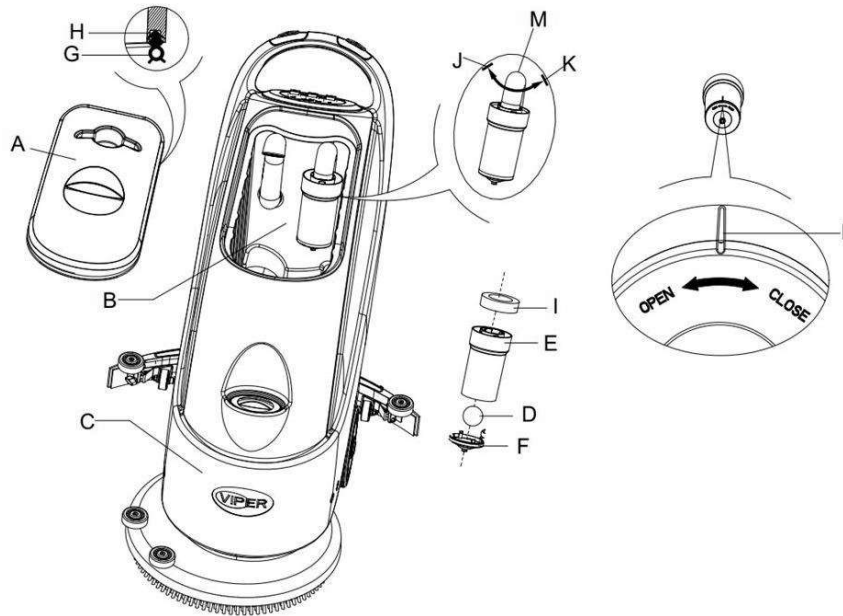

Figure 11
2. Press the power switch (38) to the position “O” to turn off the machine.
3. Open recovery tank lid (A, Figure 11), and remove the float device (36) from inside the tank.
4. Use clean water to rinse the recovery tank lid (A), the tank (B and C), and the float filter support frame (E). Drain all the water from the water tank.
5. If necessary, following the symbols “Open” and “Close” as shown in Figure 11, open the bottom lid (F) of the float filter and clean the float (D), float filter support frame (E), and the filter sponge (I). After cleaning, re-attach the float onto the support frame (E), and then align the mark groove (L) of the bottom lid (F) of the float filter with the mark groove (L) of the float filter support frame (E). Turn the bottom lid (F) of the float filter tight, and re-attach the filter sponge (I) onto the support frame (E), and then onto the vacuum tube (M).
6. Inspect the seal / gasket (G) of the recovery tank lid.
If necessary, the recovery tank seal / gasket (G) may be taken out from the groove (H) and changed. When installing the new seal / gasket as shown in Figure 11 below, install the
7. Check if the receiving surface of the sealing strip (G) is intact and seals adequately.
8. Close recovery tank lid (A).